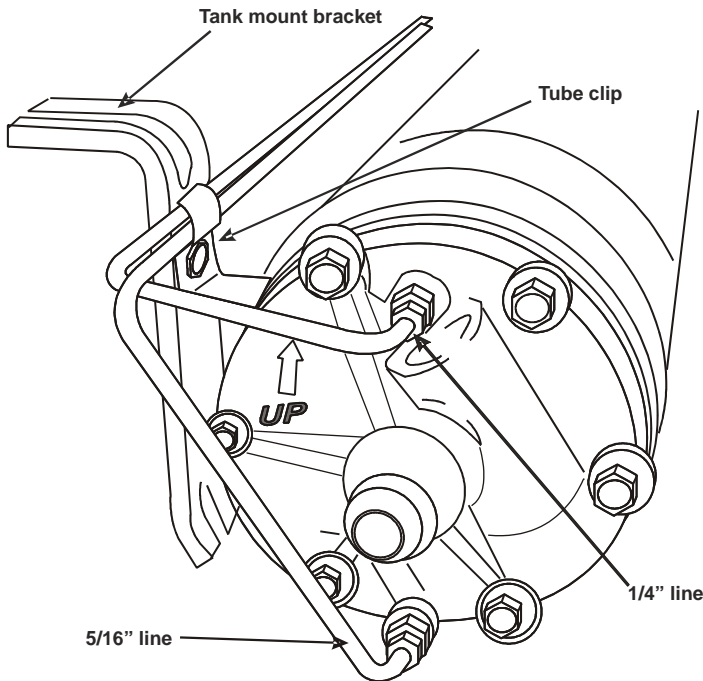

Figure 2.2
- ☐ Place the two insulated tube clips over the steel lines with the mounting holes upward and align them with the top C-clamp mounting holes (Figure 2.2).